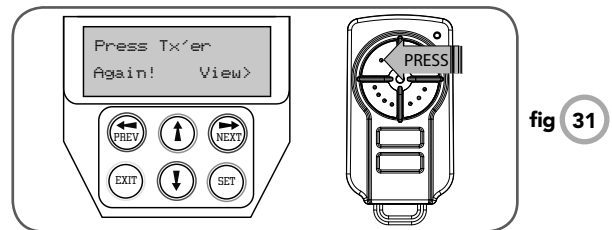

fig 31
3. Press same transmitter button again as prompted by display (**Fig. 31**).